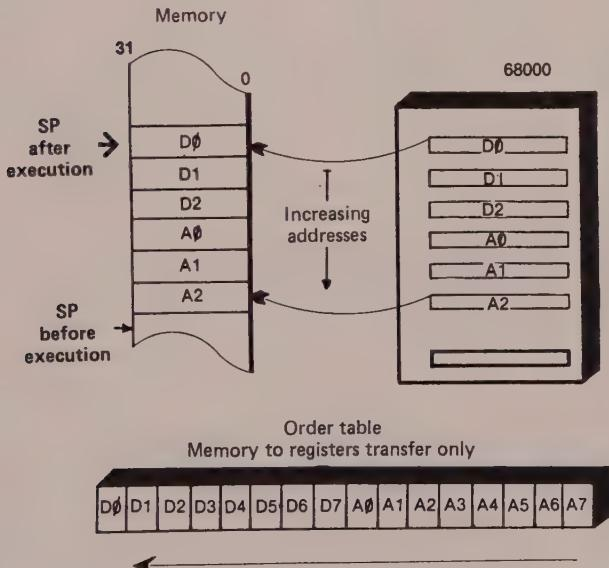

Figure 6.17 MOVEM.L A0-A2/D0-D2,-(SP)
2. Our second example is the transfer of a list of registers to a memory block (stack) in predecrement mode (see figure 6.17).